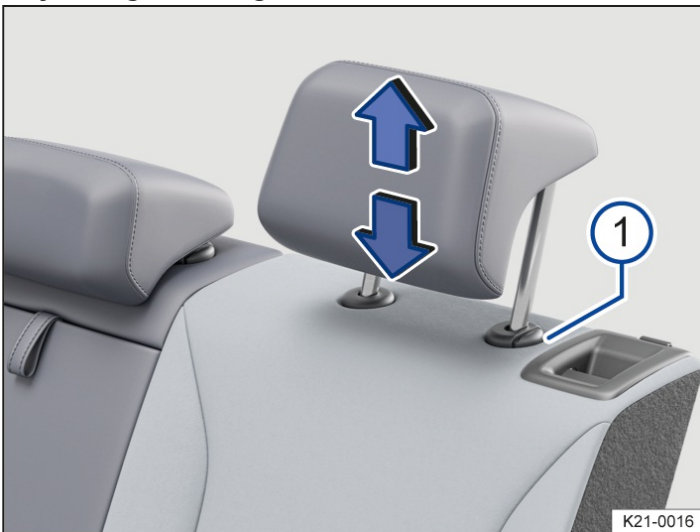

Fig. 2 Adjusting a rear head restraint (illustration).
1. While pressing the button → Fig. 2 1 if necessary, push the head restraint up or down in the direction of the arrows.